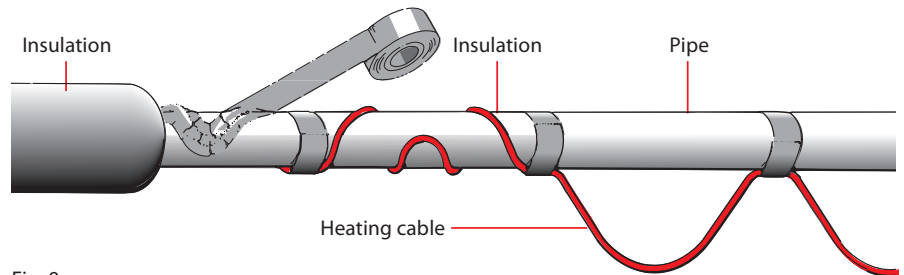

Fig. 9
2. The cable is attached to the pipe in waves or spiral, see fig. 9.